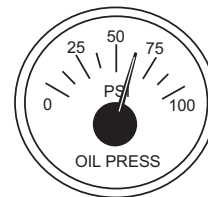

Figure 39. Oil Pressure Gauge
- The engine oil pressure gauge (Figure 39) will indicate the oil pressure of the engine. Under normal operating conditions the oil pressure is approximately 50 psi (345 kPa).